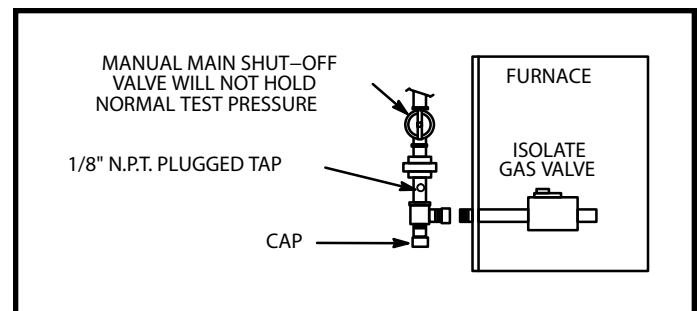

Figure 53
5. A 1/8" N.P.T. plugged tap or pressure post is located on the gas valve to facilitate test gauge connection. See Figure 53.
When testing pressure of gas lines, gas valve must be disconnected and isolated. (See Figure 53.) Gas Valves can be damaged if subjected to pressures greater than 1/2 psig (3.48 kPa).